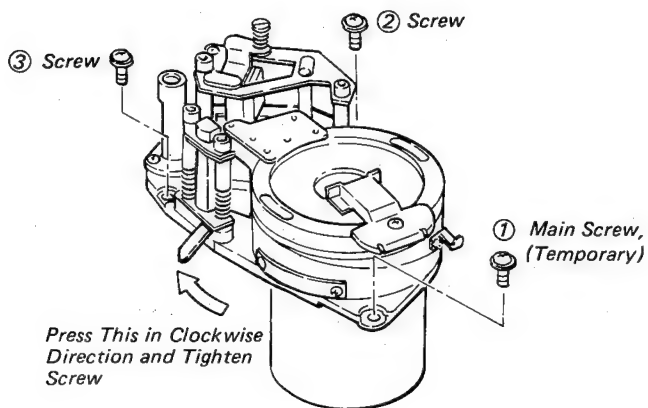
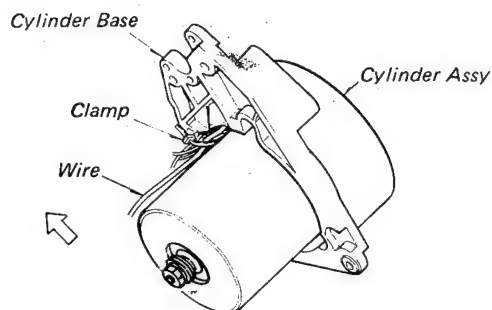

Fig. 5-74 Cylinder Assembly Removal.
Fig. 5-75 Lead Wire Slackening.
- a. Lightly tighten the screws ① and ② in Fig. 5-74.
- b. Pressing the cylinder assembly in a clockwise direction, tighten the three screws ① and ②.
- c. Put the audio head wires (yellow) in position away from the cylinder assembly (see Fig. 5-75).